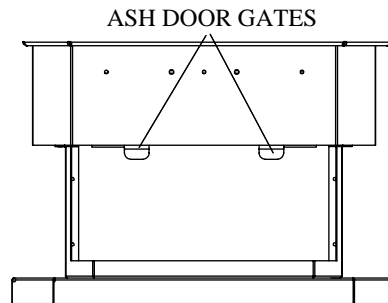

Figure 27. Ash gates for a **KOZI** pellet stove.
6. If your unit is equipped with the large ashtray, open the ashtray slightly and pull on each ash gate (Figure 27) until the ash falls from the burn chamber into the ashtray. Do not pull the ash gates too far as they may fall out. Sweep remaining ashes into the ashtray. For models equipped with the small ashtray (KSH series & Model 100 Insert) turn the 2 coil handles counter-clockwise to release the latch mechanism and pull the ashtray out. For models with no ashtray, scoop out the ashes into a metal container with a tight fitting lid. An alternate method to cleaning the ashes in the burn chamber area is to purchase a pellet vacuum. These vacuums are specifically designed for the removal of ashes in a pellet stove.